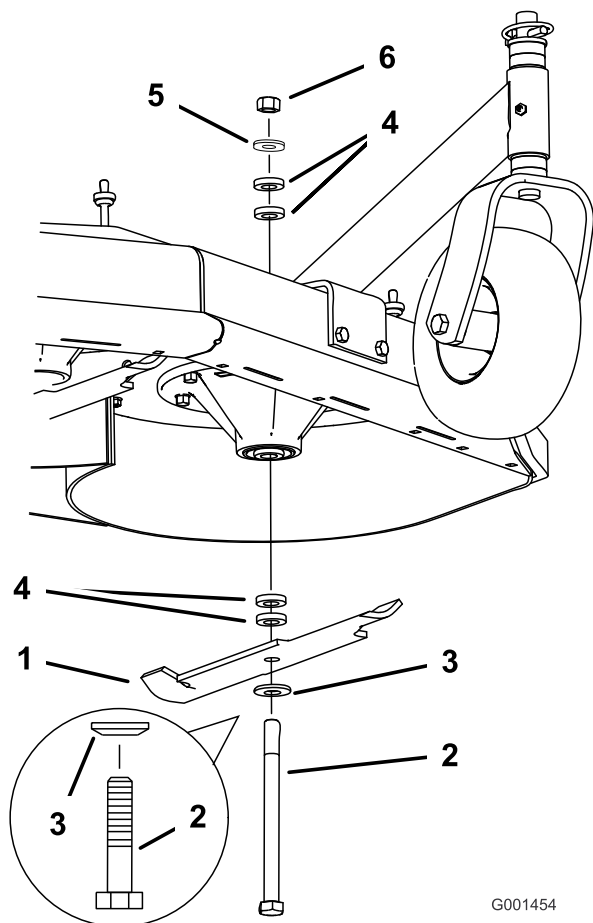

Figure 66
2. Remove the nut, blade bolt, curved washer, blade, spacers, and thin washer from the spindle (Figure 66).
1. Install the curved washer and then the blade onto the bolt. Select the proper number of spacer(s) for the height-of-cut, and slide the bolt into the spindle (Figure 66).
2. Install the remaining spacer(s) and secure them with a thin washer and a nut (Figure 66).